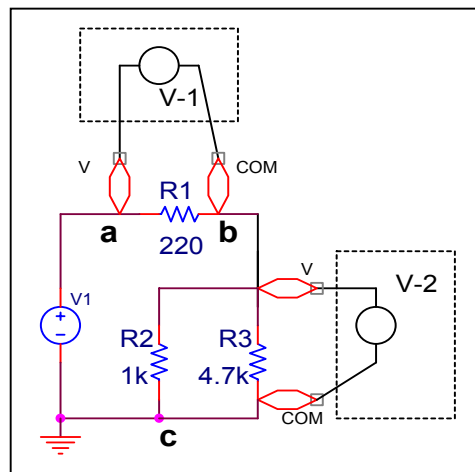

Figure 1.14 *Voltage measurements*
4. **[12 MARKS]** Calculate by hand in section 2 the voltages listed in Table 1.2 of the Lab Measurements Sheet (i.e., the voltages V_a , V_b , V_c , V_{ab} , V_{bc} and V_{R1} in Figure 1.14), and record the final answers in the column labeled “Theoretical Values” in Table 1.2 of the Lab Measurements Sheet. Show your calculations.
4.1 Measure V_a , V_b , V_c , V_{ab} , V_{bc} and V_{RI} listed in Table 1.2, using the digital meter as shown in Figure 1.14.